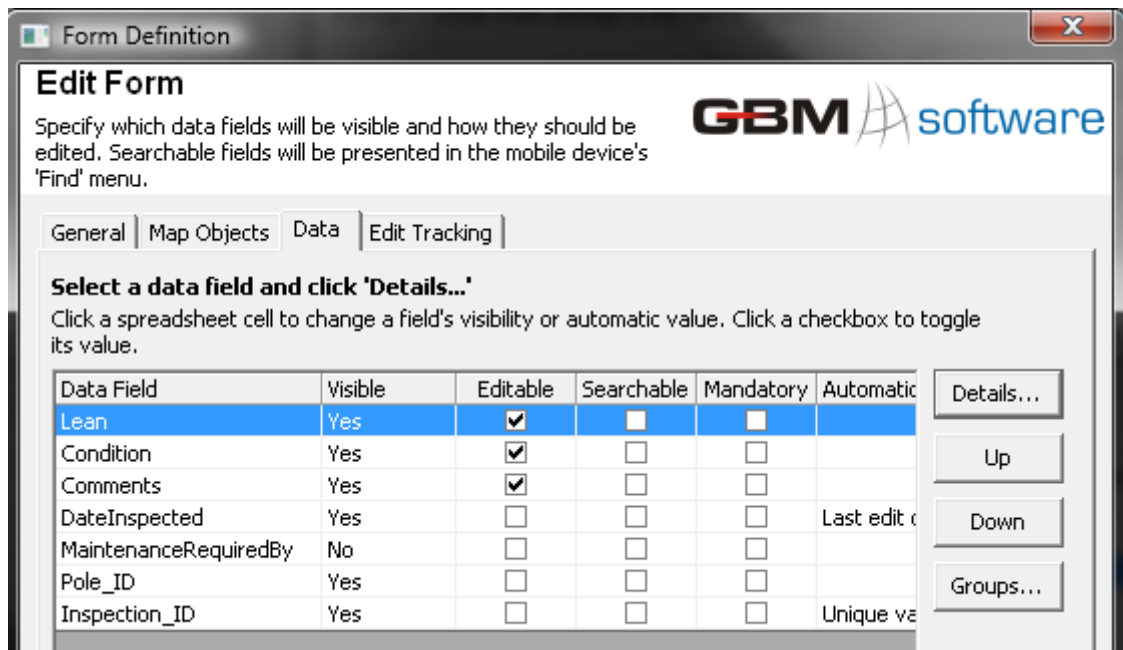

Figure 27 - Forms Definition window showing Data tab.
12. Edit the required form by opening the Forms Definition Window and then select the "Data" tab (see Figure 27).